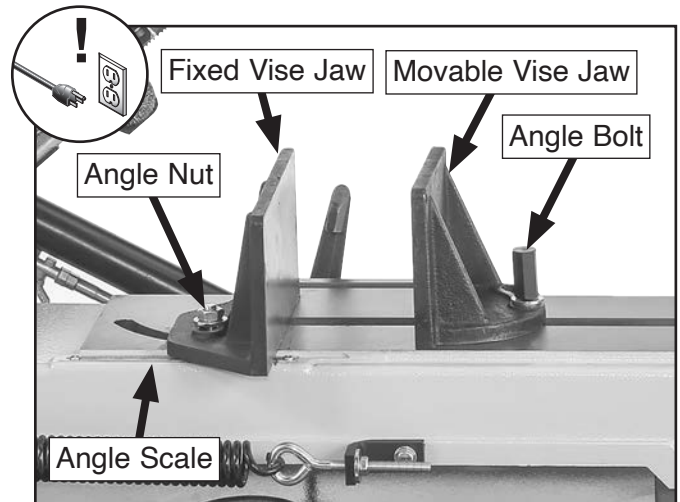

Figure 32. Location of vise jaws and angle components.
2. Loosen movable vise jaw angle bolt and fixed vise jaw angle nut shown in **Figure 32**.
3. Use angle scale to adjust fixed vise jaw to desired angle of cut (see **Figure 32**), then tighten angle nut to secure.